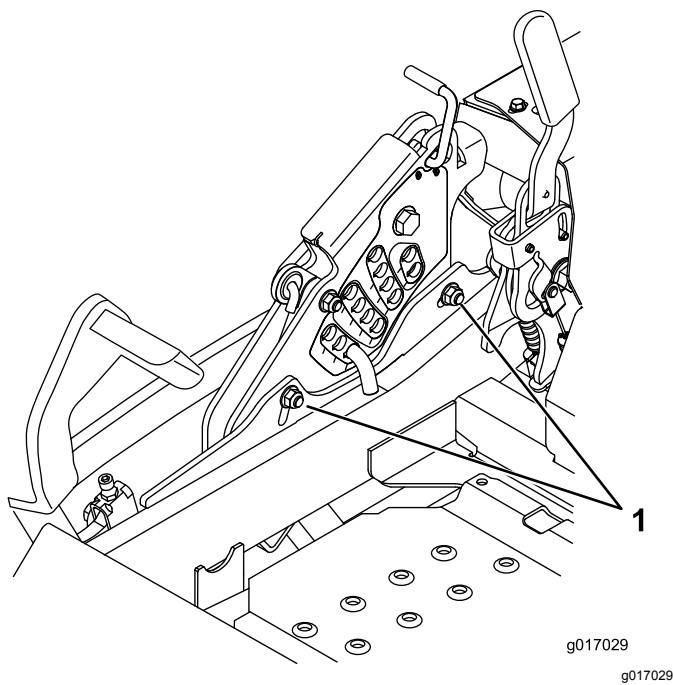

Figure 94
12. If the front deck links do not have enough adjustment to achieve accurate cut height, loosen the 2 bolts at the bottom of the height-of-cut plate to adjust the single-point system (Figure 94).
14. Tighten the 2 bolts at the bottom of the height-of-cut plate (Figure 94).